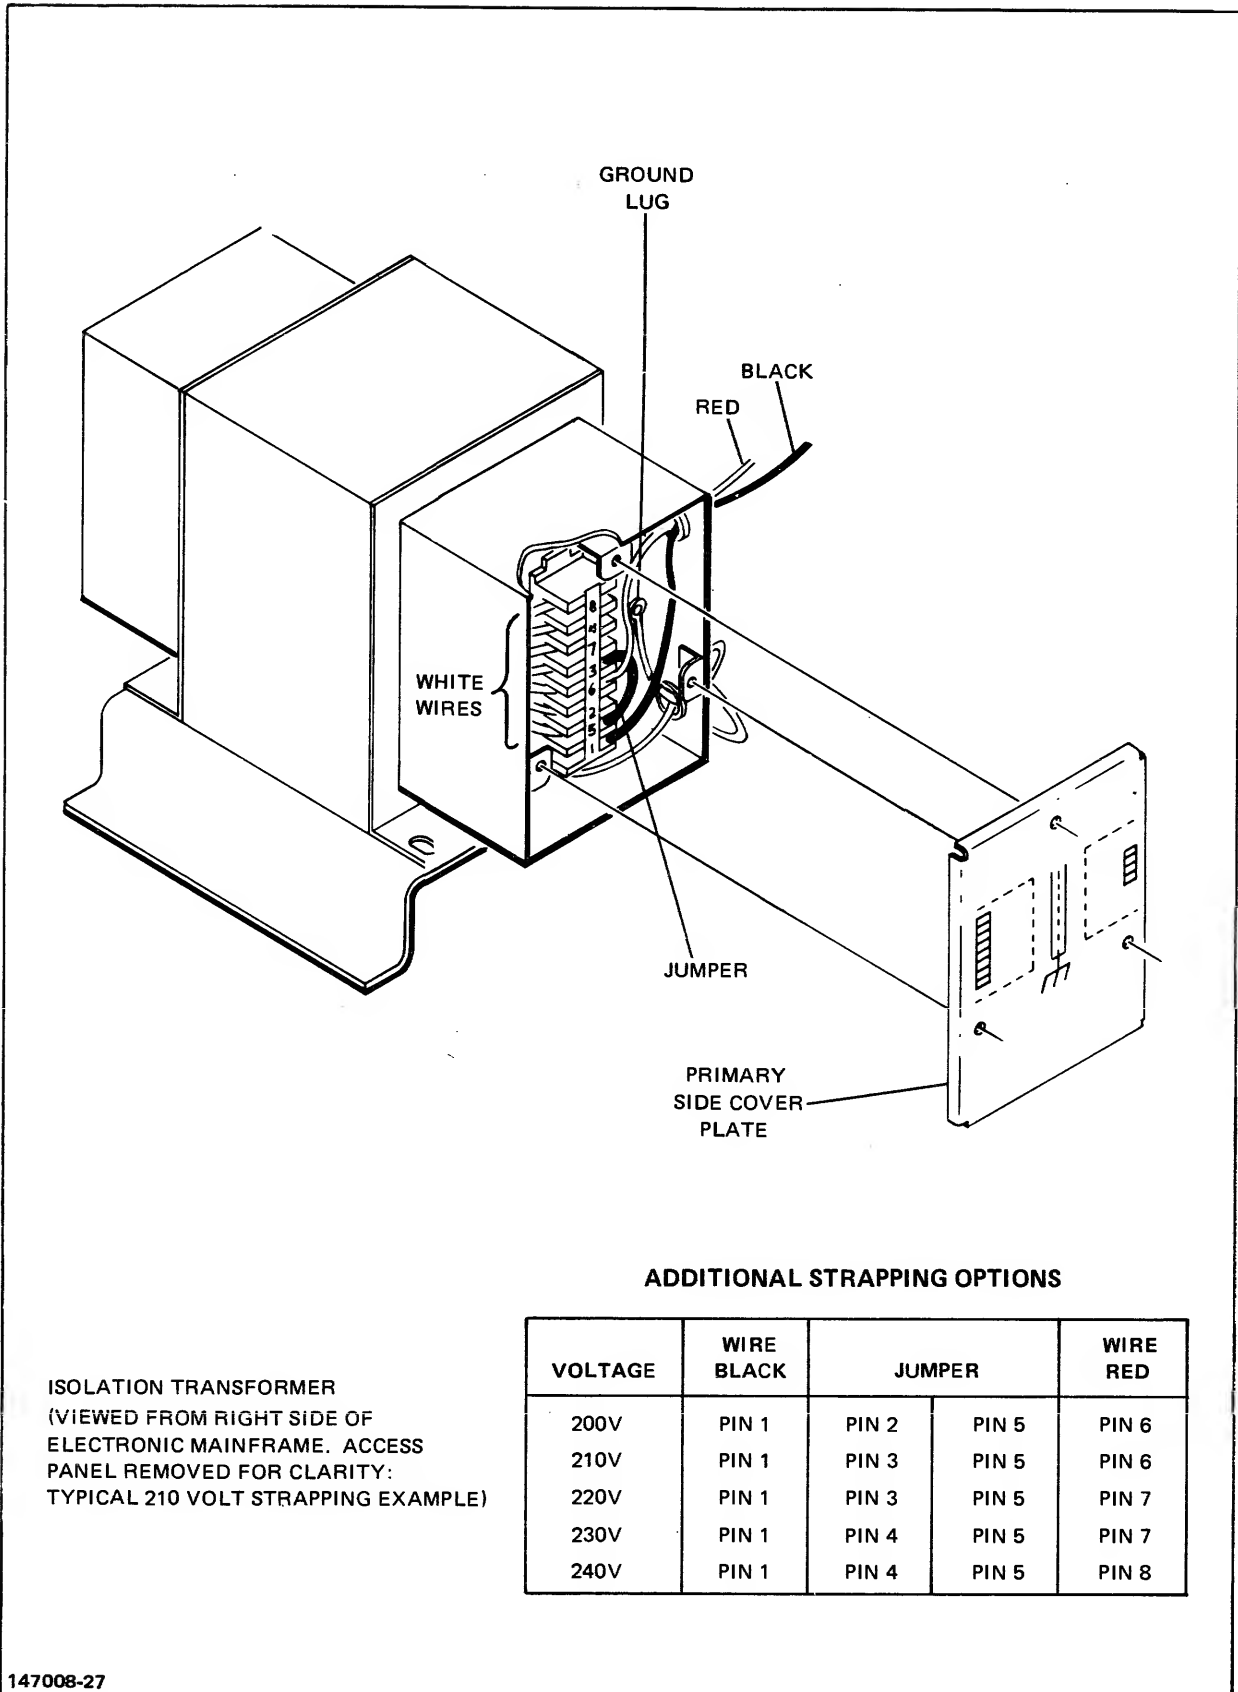

Figure 4-1. Strapping Options
The isolation transformer is located as shown in Figure 4-1.
3. Check strapping against table in Figure 4-1. Re-strap for your RATED voltage if necessary.